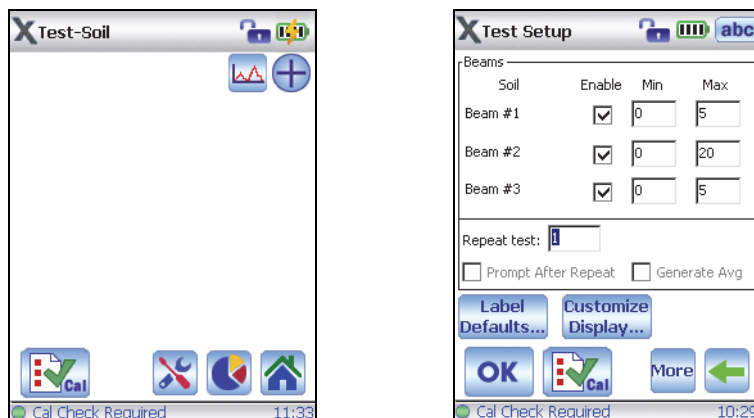

Figure 4-8 The Test and Test Setup screens: Ready for Cal Check procedure
3. Navigate to a **Test** screen, or any screen that displays the Cal Check button (see Figure 4-8 on page 71).